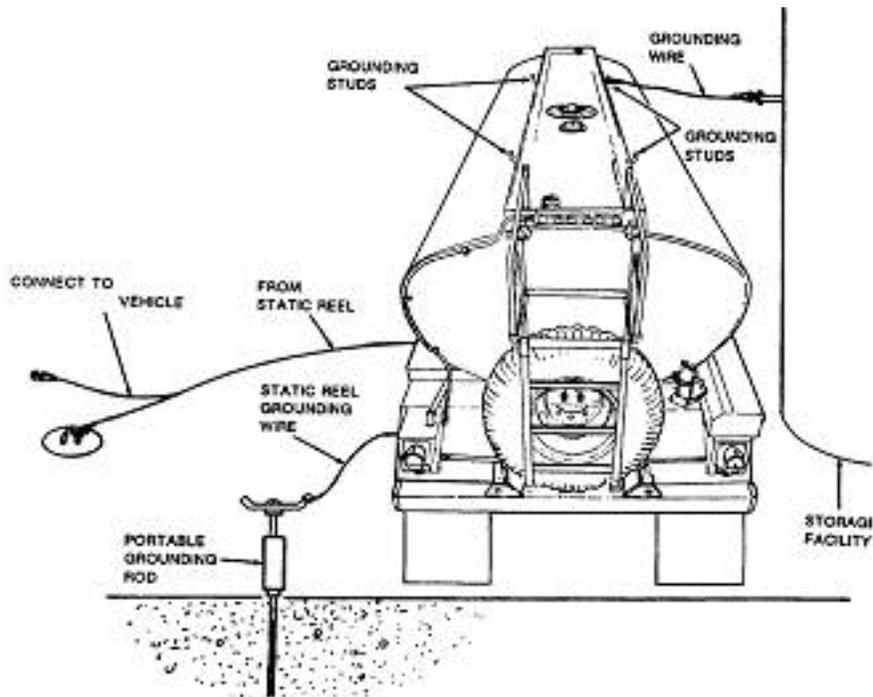

Figure 3-32.
(7) Begin the flow from the outside source.
(8) After the flow has begun, open the pre-check valve to pre-check the shutoff float. Flow should stop after about 20 to 25 seconds to indicate that the float is functional. If it is not working, stop all operations and notify higher maintenance.
(9) Close the pre-check valve. The flow will resume in about 20 seconds. Be prepared to stop the fuel supply at the loading facility in event of shut-off float malfunction, if leaks are apparent, or other unusual conditions are seen.
(10) When tank is full, the flow should stop automatically. Close all valves, replace all covers, and disconnect the hoses.
(11) Drain the accumulated water in the same manner as stated in 1a(8) above for top loading.
(12) Remove the grounding wires.
(13) Stow fire extinguishers.
c. Self-loading using vehicle engine and pump (see Figure 3-32). Product is not filtered.
(1) Ensure all valves are closed.
(2) Ground and bond the vehicle.
(3) Remove fire extinguishers and bring to point of operation.
(4) Start the engine and pump (see item 1 as necessary).
(5) Adjust idle speed on pump to 1,000 to 1,200 rpm.
(6) Remove the 4-inch bulk fuel hose from the hose trough. Do this by disconnecting the spring pins and turning the hose trough bars out of the way.
(7) Remove dust cap from the fuel outlets. Connect one end of the bulk fuel hose to the outlet and the other end to the storage facility.
(8) Place the selector valve in the LOAD position.
(9) Open the operator valve, fuel outlet valve, and the manifold outlet valve.
(10) Shortly after the flow has started, open the pre-check valve to pre-check the shutoff float. After about 20 to 25 seconds, the flow should stop to let you know the float is working properly. If it is not working, stop all operations and notify higher maintenance.